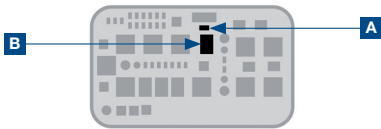

Figure 6
- 22 Insert the relay (B) and locking device (A) (Figure 6).